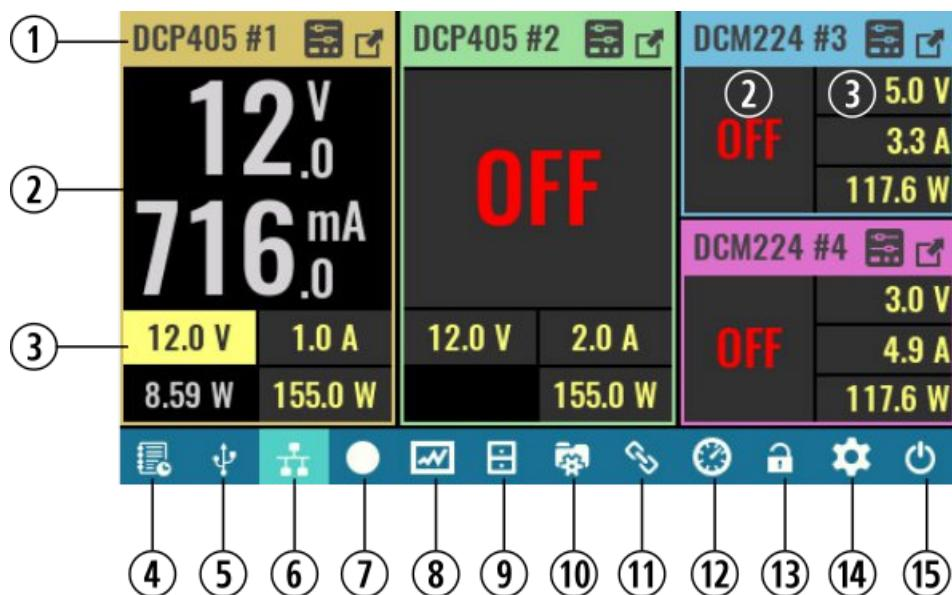

Fig. 8: Home page overview
Fig. 8 shows home page of the EEZ BB3 loaded with three different power module (see Fig. 9) using the default view (*numeric*) for presenting output states, and measured and set values. This module configuration (i.e. DCP405 and DCM220) will be used as an example throughout this manual.
- (12) **Display view selection:** toggle between five different presentations of output module parameters (default is numeric view – as shown on Fig. 8).
- (13) **Display lock/unlock:** when locked all local user interaction via touch-screen display will be disabled until the same option is selected again. Unlocking is not possible without entering valid system password (the system password is *not* defined by default).
- (14) **System settings:** use it to access system-wide protection settings, display, sound, trigger, digital I/O, date & time, Encoder and user switch, AUX temperature & fan control, Ethernet, Serial/USB and channels calibration
- (15) **Power / Reset control:** allows access to standby, “soft” reset (see also \\*RST), “hard” reset (equivalent to power up reset) and option to turn off display